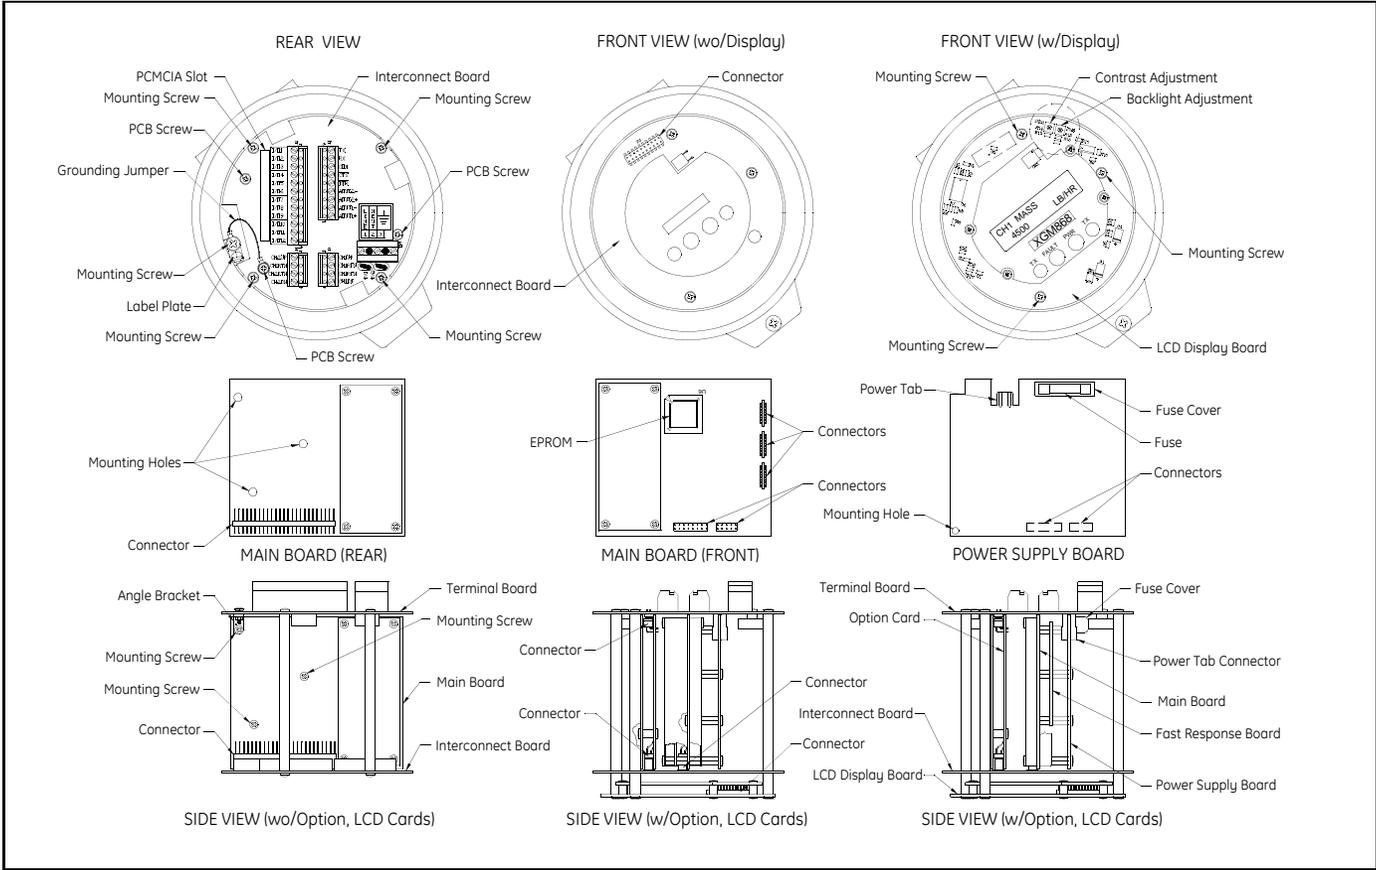

Figure 4-1: Model XGS568 Electronics Console Assembly
5. Refer to the REAR VIEW (upper left) in Figure 4-1 on page 4-13, and remove the *five* terminal board *mounting screws*. This will disconnect one end of the green *grounding jumper* and the *label plate* with the ground symbol will come loose from beneath it.
An optional LCD display may be included with the Model XGS868. The LCD display normally provides years of dependable service, but it is easily field-replaceable when necessary. To replace the LCD display, see Figure 4-1 on page 4-13 for the component locations, and complete the following steps:
2. Place the circuit board assembly on a flat surface with the LCD display board facing upward. Refer to the FRONT VIEW (upper right) in Figure 4-1 on page 4-13, and remove the *three mounting screws* (with flat washers and lock washers) indicated.
**Note:** *The two circuit boards are attached by a connector located beneath the top edge of the LCD display board (see the top middle view in Figure 4-1 on page 4-13).*
**Note:** *The display contrast and backlight brightness are adjustable via two potentiometers located on the LCD display board. See Figure 4-1 on page 4-13 to locate these components and refer page 2-1 in the Programming Manual for instructions.*
3. Locate the fuse along the left side of the power supply board, just below the terminal board (see the lower right SIDE VIEW and the POWER SUPPLY BOARD in Figure 4-1 on page 4-13).
To replace the User Program, refer to Figure 4-1 on page 4-13 and complete the following steps:
2. Place the circuit board assembly on a flat surface with the terminal board facing upward. Refer to the REAR VIEW (upper left) in Figure 4-1 on page 4-13, and remove the *three PCB screws* (with flat washers and lock washers) indicated. This will also remove the green *grounding jumper*.
4. See the SIDE VIEW (lower left) in Figure 4-1 on page 4-13, and remove the *three mounting screws* (with flat washers and lock washers) from the main board. Then, carefully pull the *terminal board* away from the main board/power supply board assembly.
5. Turn the assembly over and remove the single *mounting screw*, flat washer and lock washer in the lower left corner of the power supply board (see POWER SUPPLY BOARD in Figure 4-1 on page 4-13).
The U6 EPROM is located along the upper edge of the main board, on the side that was facing the power supply board (see the MAIN BOARD (FRONT) view in Figure 4-1 on page 4-13). It is the only socketed chip on this board and it has a white identification label.
To install an option card, refer to the SIDE VIEW in Figure 4-1 on page 4-13 and complete the following steps:
1. Refer to Figure 4-1 on page 4-13 to locate the slot for the PCMCIA card, next to terminal block J2 on the terminal board.
Most of the parts replacement procedures described in this chapter require removal of the circuit board assembly from the electronics enclosure. Furthermore, most of the procedures require varying degrees of disassembly of the circuit board assembly. See Figure 4-1 on page 4-13 and follow the instructions in this section to assemble the circuit board assembly and/or to install it in the electronics enclosure.
If the circuit board assembly has been disassembled to any degree, complete the steps below. Otherwise proceed directly to *Installing the Circuit Board Assembly* on page 4-11. See Figure 4-1 on page 4-13 and complete the following steps:
7. Secure the assembly together by installing the three PCB screws, flat washers and lock washers previously removed from the terminal board. Be sure to install one end of the grounding jumper under the screw indicated in Figure 4-1 on page 4-13.
Be sure that the circuit board assembly is completely assembled, as described in the previous section. Then, refer to Figure 4-1 on page 4-13 and install the circuit board assembly into the electronics enclosure as follows: